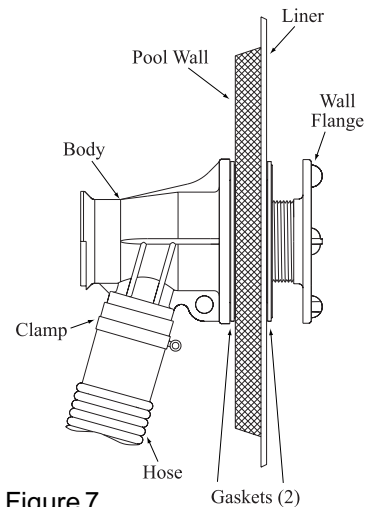

Figure 7.
- Slip the return hose from the equipment, over the inlet port, and tighten the hose clamp securely; see Figure 7.